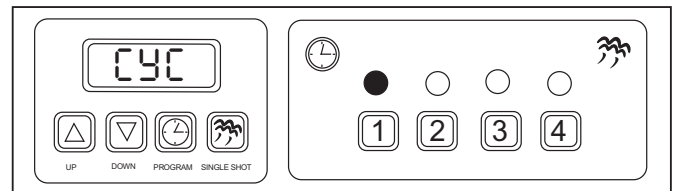

Figure 4. CYC Mode on Menu 1
**CYC (Total Cycle Time)** refers to the total amount of cooking time set for the product (Figure 4).